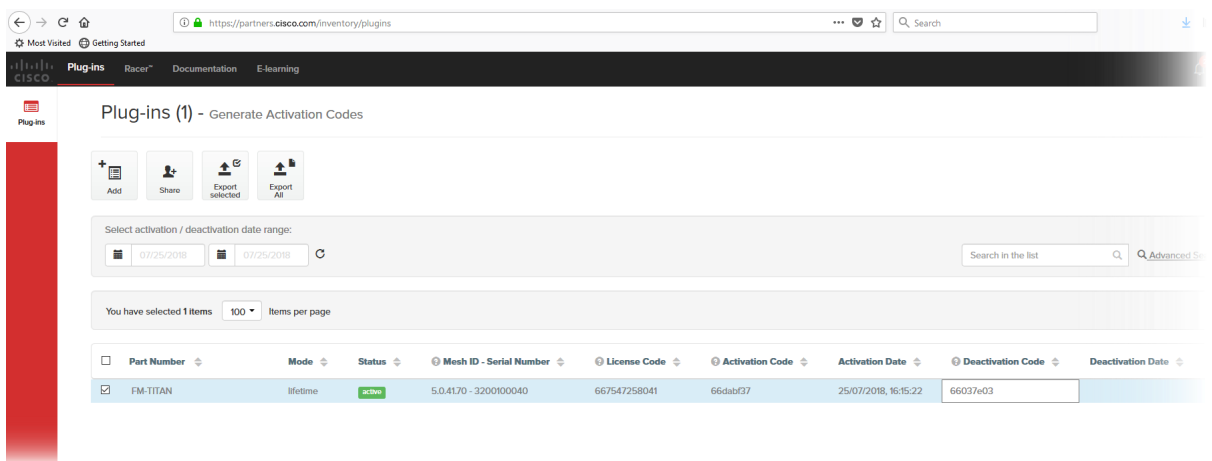

Figure 69. Partner Portal Plug-ins page (deactivation code entry)
8. Enter the Deactivation code for the plug-in in the Deactivation Code field (Figure 69 \(page 148\)).